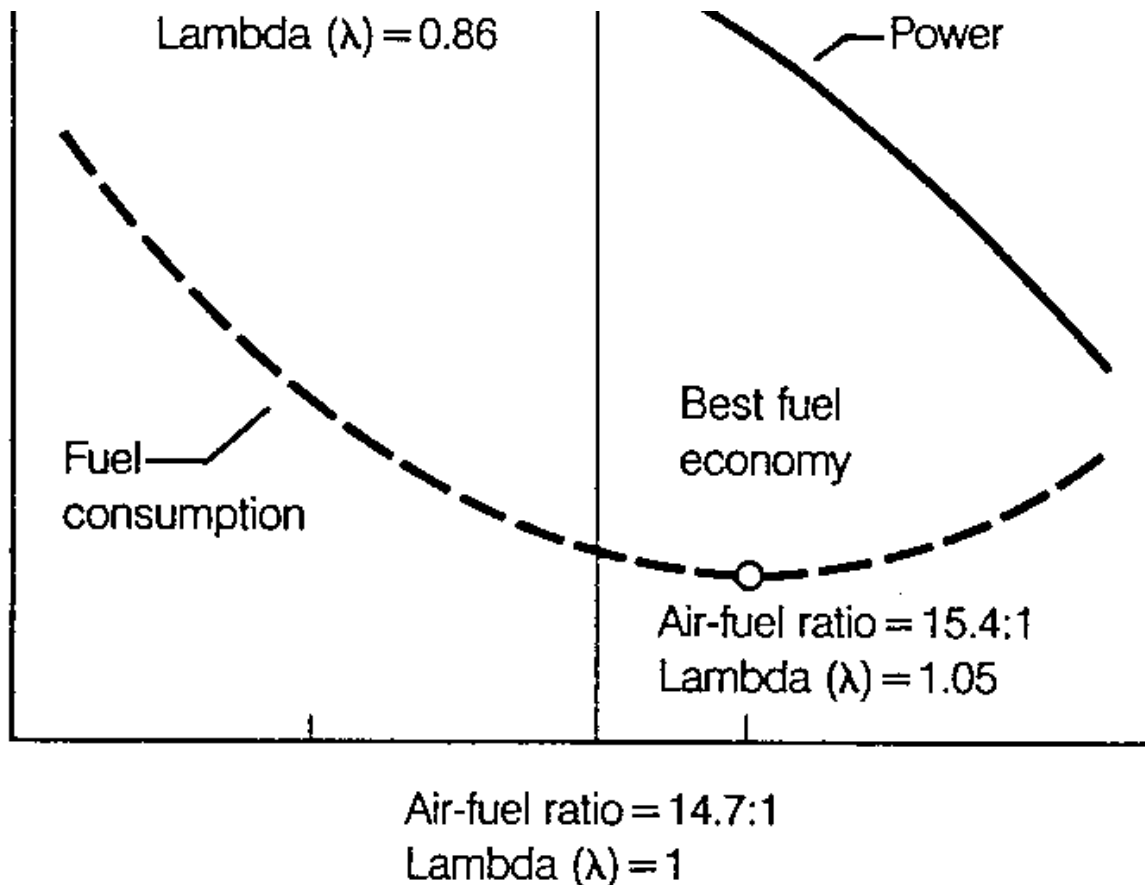

Figure 1.
With Gastester you can tune your car for the way you drive. As shown in figure 1 (from the Bosch Fuel Injection and Engine Management book) the air/fuel ratio can be set for maximum power or minimum fuel consumption, or optimized. Gastester only measures CO, but the levels of hydrocarbons (HC) and oxides of nitrogen (NOx), -- the other pollutants typically measured -- can be inferred from the CO level. These three pollutants are related to the air/fuel ratio as described in the Bosch Fuel Injection and Engine Management book and as shown in figure 2.